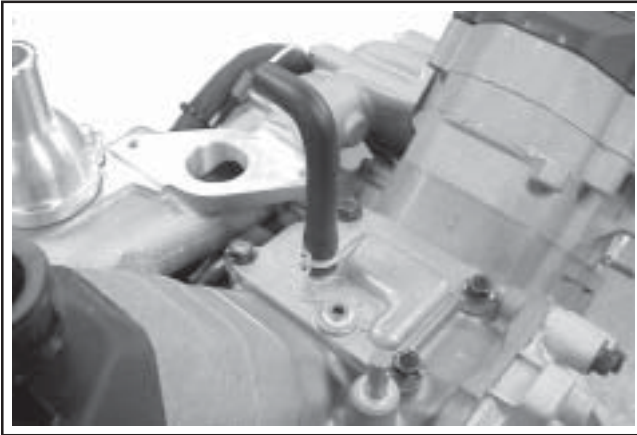

**Figure 11-77. Connecting Starter Leads to Starter.**
3. Attach the leads to the appropriate starter solenoid terminals. See Figure 11-77.